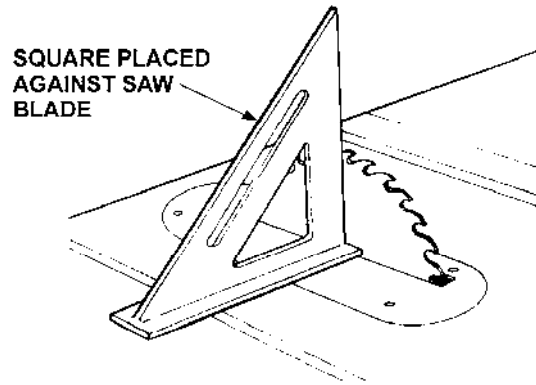

Figure 30
4. Place a square on the table and check to see that the blade is at a 90 degree angle to the table. See Figure 30.